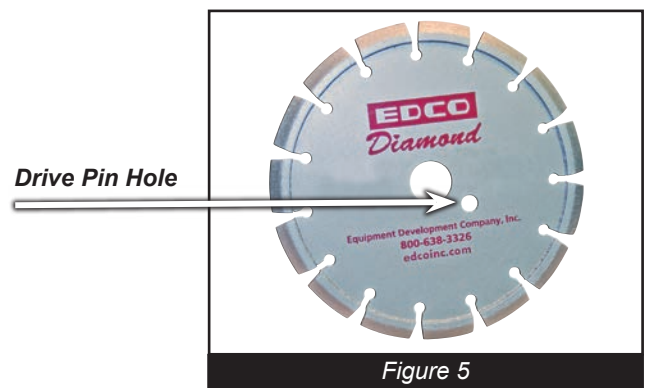

Figure 5
- Check diamond blades for cracks, loose segments and oversize, worn, or out-of-round arbor holes *(See Figure 1)*. Do not use **any** questionable blade since serious injury and/or damage to property can result. Do not use warped, twisted, or out-of-balance blades. Unbalanced blades will wear excessively, vibrate and damage both arbor shaft and bearings. Do not use a blade without a drive pinhole *(Figure 5)*.
Inspect the blade before installing. Check diamond blades for cracks, loose segments and oversize, worn, or out-of-round arbor holes. (*Figure 1*) Do not use any questionable blade since serious personal injury and/or damage of property can result. Do not use warped, twisted, or out-of-balance blades. Unbalanced blades will wear excessively, vibrate and damage both arbor shaft and bearings. Do not use a blade without a drive pinhole (*Figure 5*).